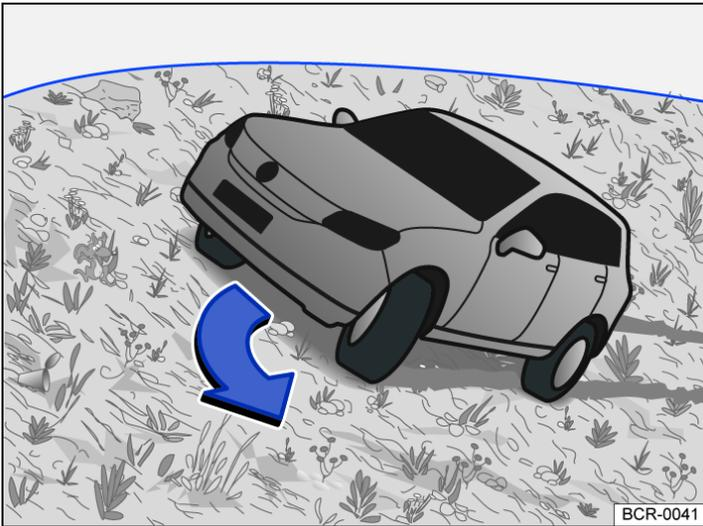

Fig. 1 Illustration: steering into the fall line.
- If the vehicle threatens to tip over, steer immediately into the fall line and depress the accelerator slightly → *Fig. 1*. If it is not possible to steer into the fall line, then steer uphill and depress the accelerator slightly.
- Make sure that you can steer into the fall line before driving across a slope. Choose another route if this is not guaranteed. If the vehicle threatens to tip over, steer immediately into the fall line and depress the accelerator slightly → *Fig. 1*.